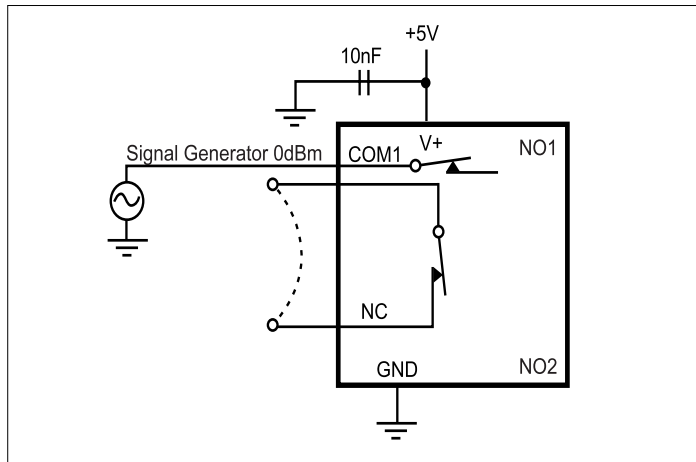

Figure 4. Crosstalk
8. Between any two switches. See Figure 4.